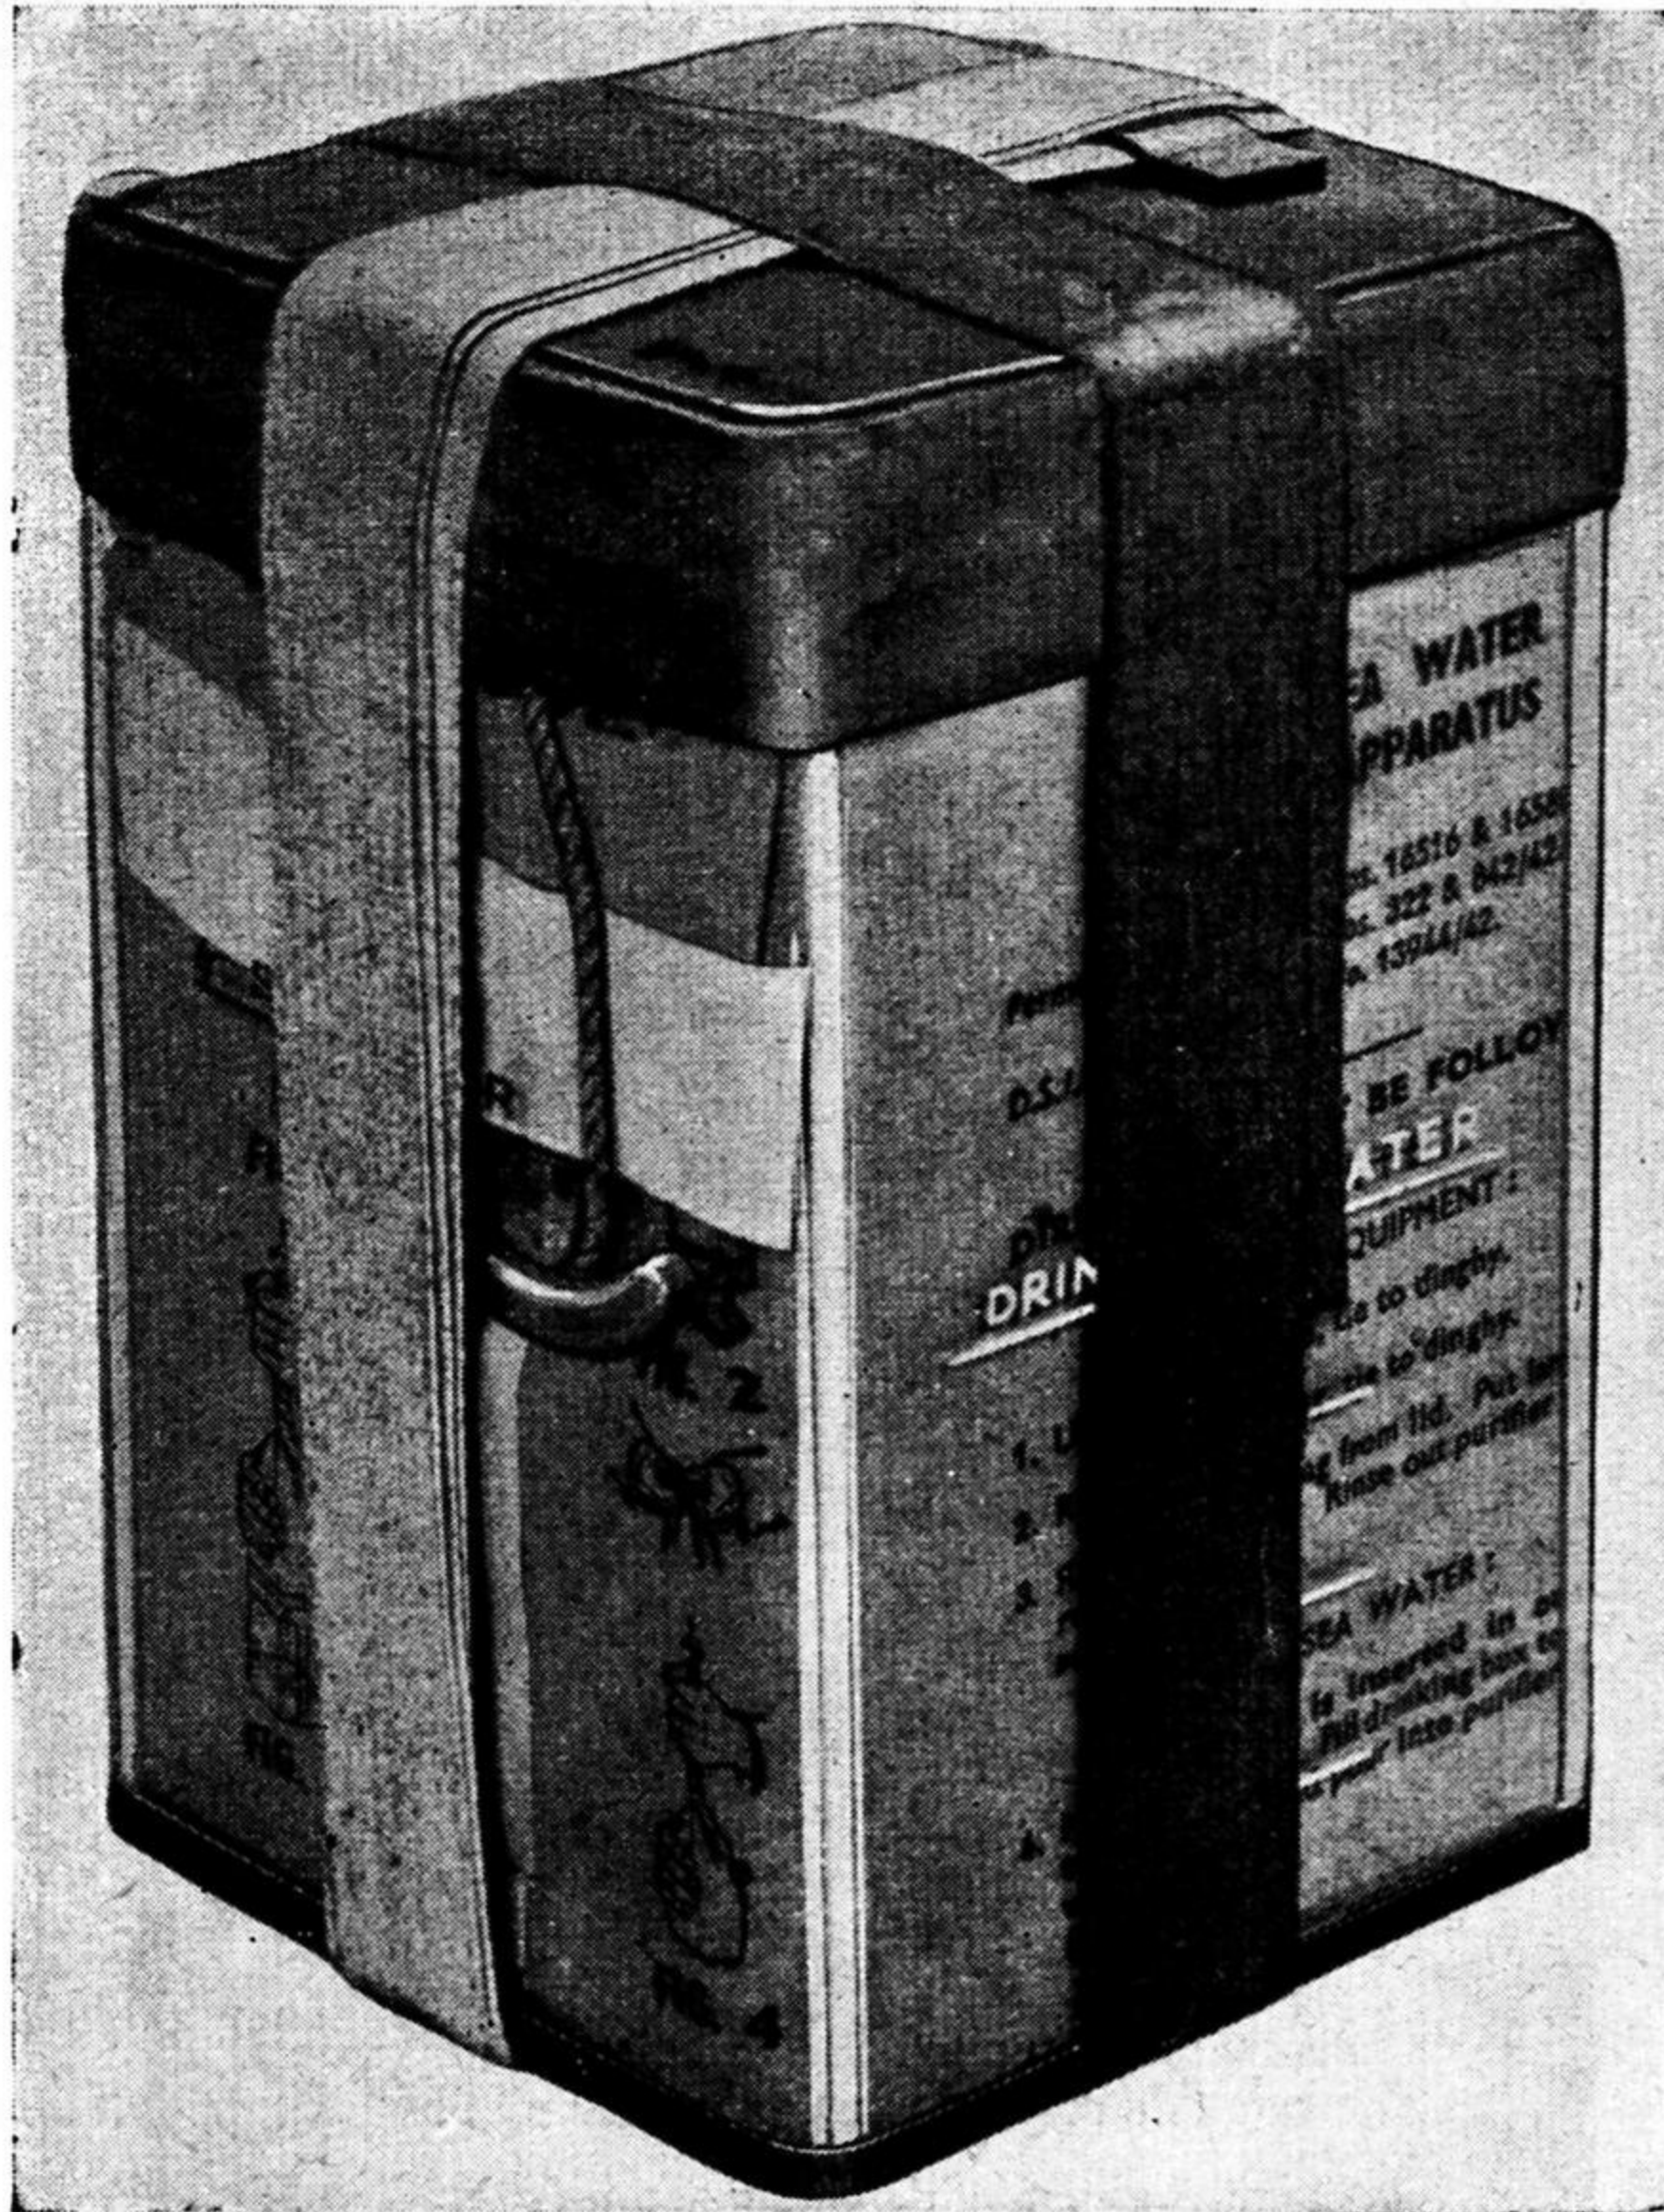

Fig. 1. 4½ pint de-salting apparatus
8. The apparatus packed ready for stowage (*fig. 1*) measures 3 in. by 3 in. by 4 in., and produces 4½ pints of drinking water. It consists of the following items:—